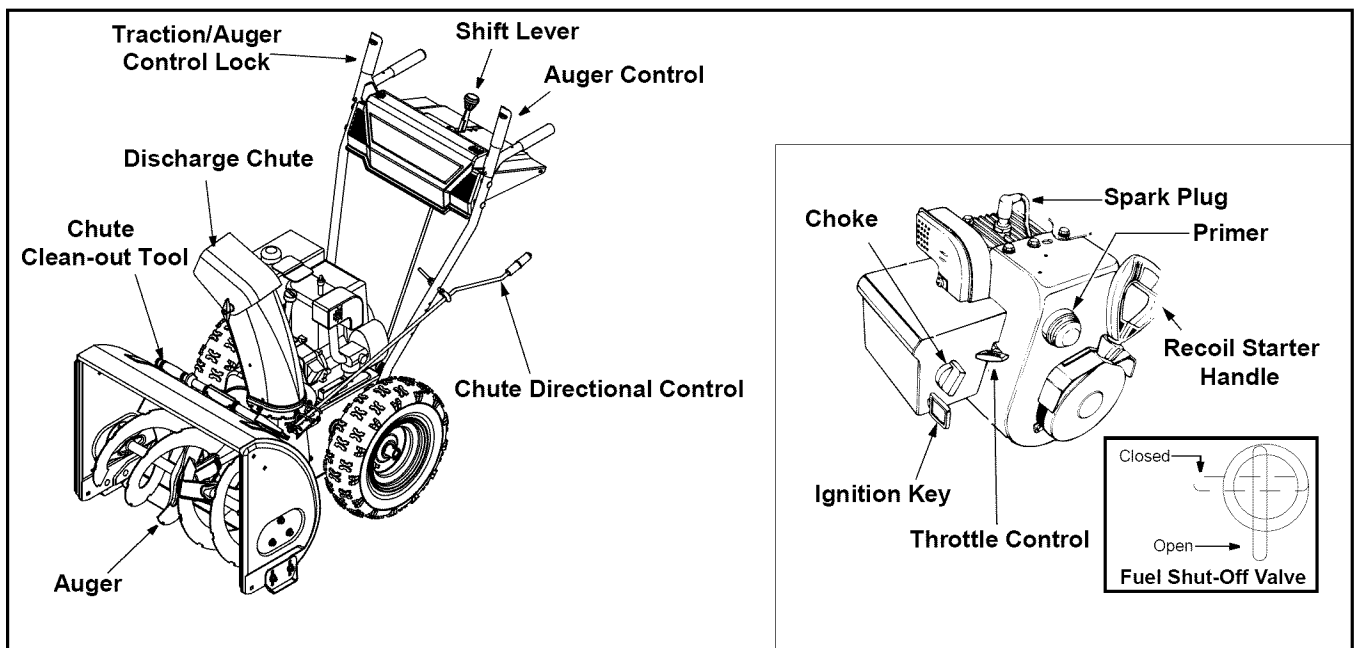

Figure 14
The chute clean-out tool (see Figure 14) is designed to clear a clogged discharge chute. Refer to **Operating Your Snow Thrower** on page 13 for detailed instructions on how to properly use the chute clean-out tool.
On models so equipped, the fuel shut-off valve, located under fuel tank, controls fuel-flow from the gas tank. See Figure 14.
The throttle control is located on the engine. It regulates the speed of the engine. See Figure 14.
- Move throttle control up to FAST position. Insert ignition key into slot. Be certain it snaps into place. Do not turn key. See Figure 14.
The chute clean-out tool is conveniently fastened to the rear of the auger housing with a mounting clip (Refer to Figure 14). If the discharge chute becomes clogged during operation, proceed as follows to safely clean the chute and chute opening: